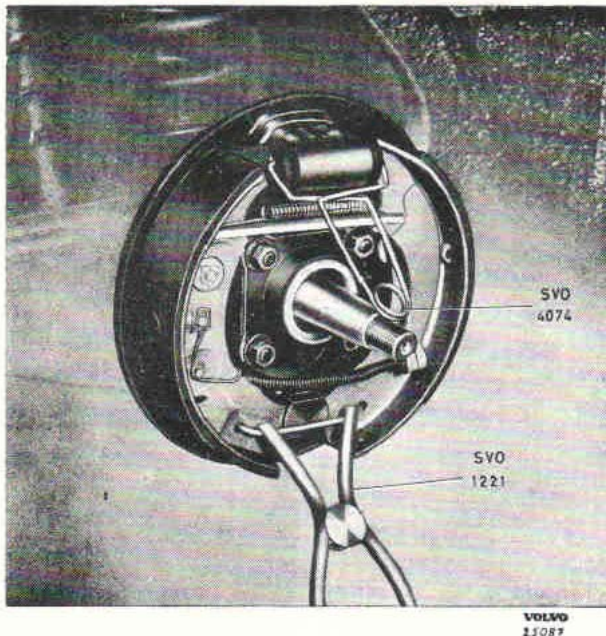

Fig. 18. Removing the lower spring.
3. Place the spring clip SVO 4074 on the wheel unit cylinder so that the plungers cannot be pressed outwards. Remove the lower spring with the help of pliers SVO 1221, see Fig. 18. Remove the locking washer and other washers from the front shoe. Then turn the shoe outwards so that the handbrake link can be removed. Lift off the front brake shoe and return spring. Disconnect the handbrake cable and remove the rear shoe.